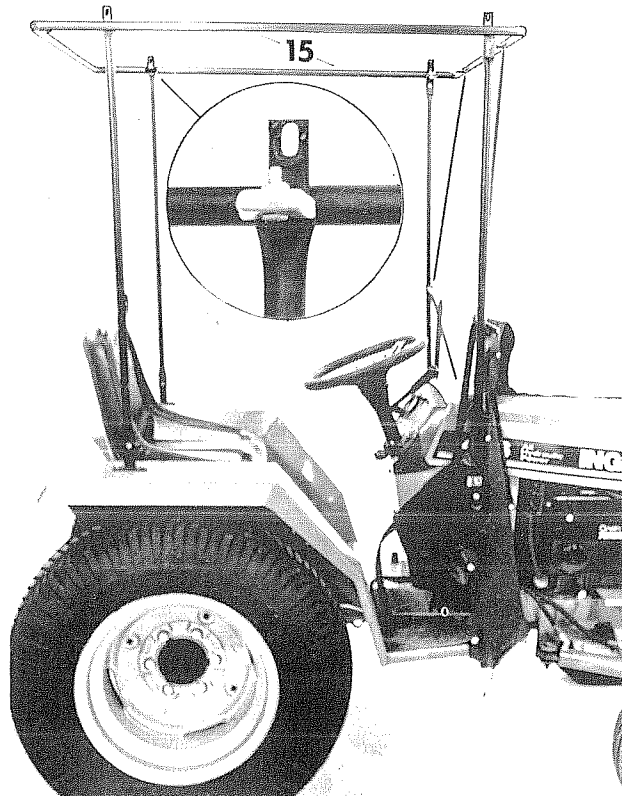

FIGURE 6
STEP 6; SEE FIGURE 6:
- A. Position the TOP FRAME (15) onto the bent ends of the posts and top frame braces. Insert six bolts upwards add nuts and tighten.